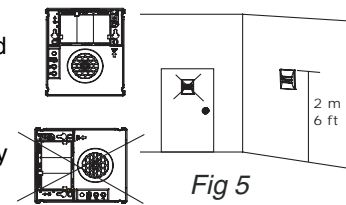
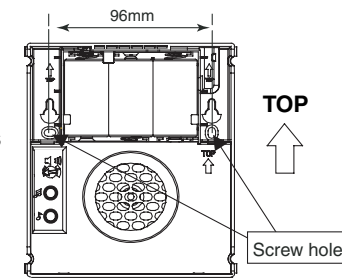
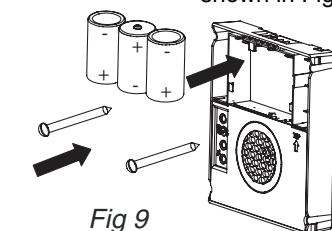

Fig 5
Fig 6
Fig 9
Remove battery compartment cover and insert three LR6 (AA) alkaline batteries as shown in Fig 9.
First, place the chime close to the door push (within 8m/ 25ft) to program the chime and check that it is working. Press the door push until the chime responds with a tune. You can leave this tune or change the tune by using button A (see Fig 5, sound selection).
The door chime mounting height should be around 2 m (6 ft) from ground as shown in Fig 5. Follow the TOP arrow as shown in Fig 6.
Remove the decorative cover by simply pulling it away from the rear casing. The distance between both mounting holes is 96 mm as shown in Fig 6.
The chime base should be wall mounted using the screws and wall plugs provided (refer to Fig 6 for mounting information). Insert the three LR14(C) alkaline batteries in the order shown in Fig 9.
First remove decorative cover and replace with 3 x LR14 (C) alkaline batteries. Fig 9